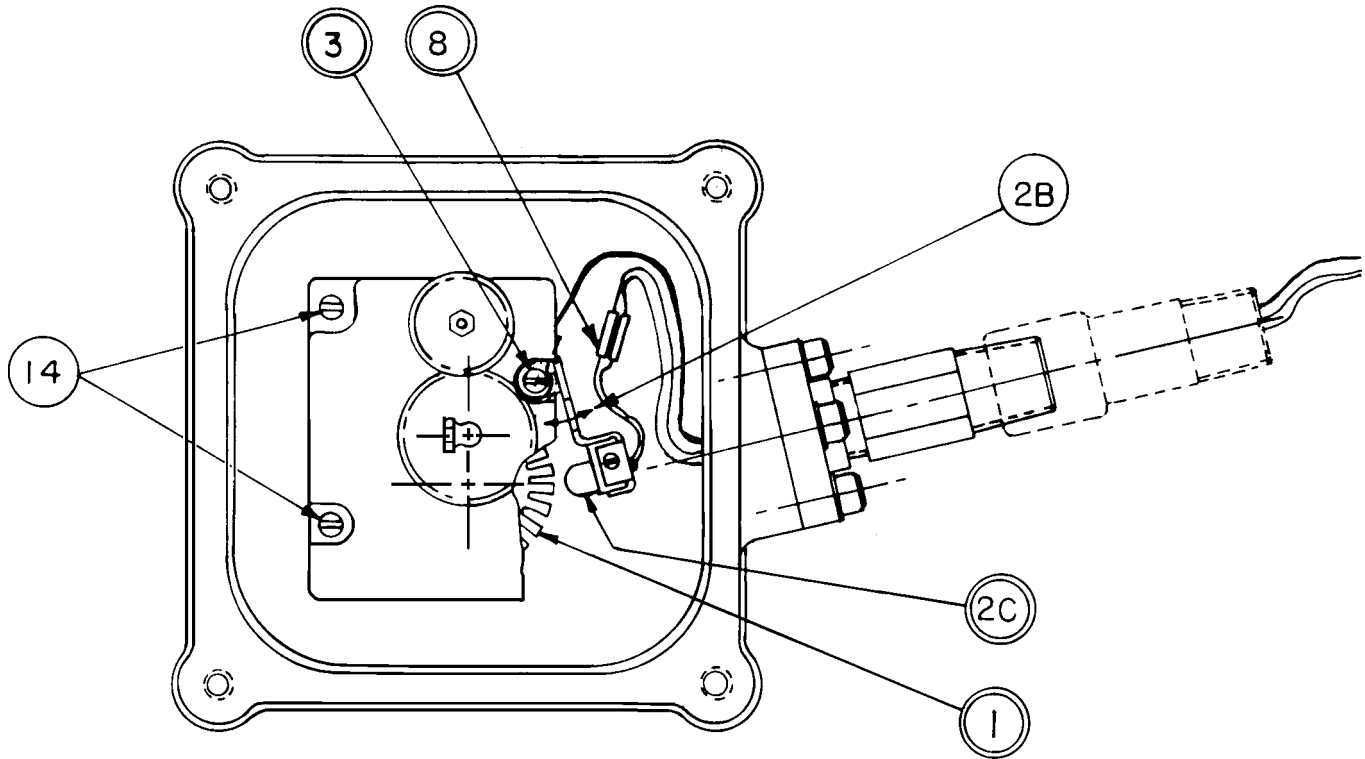
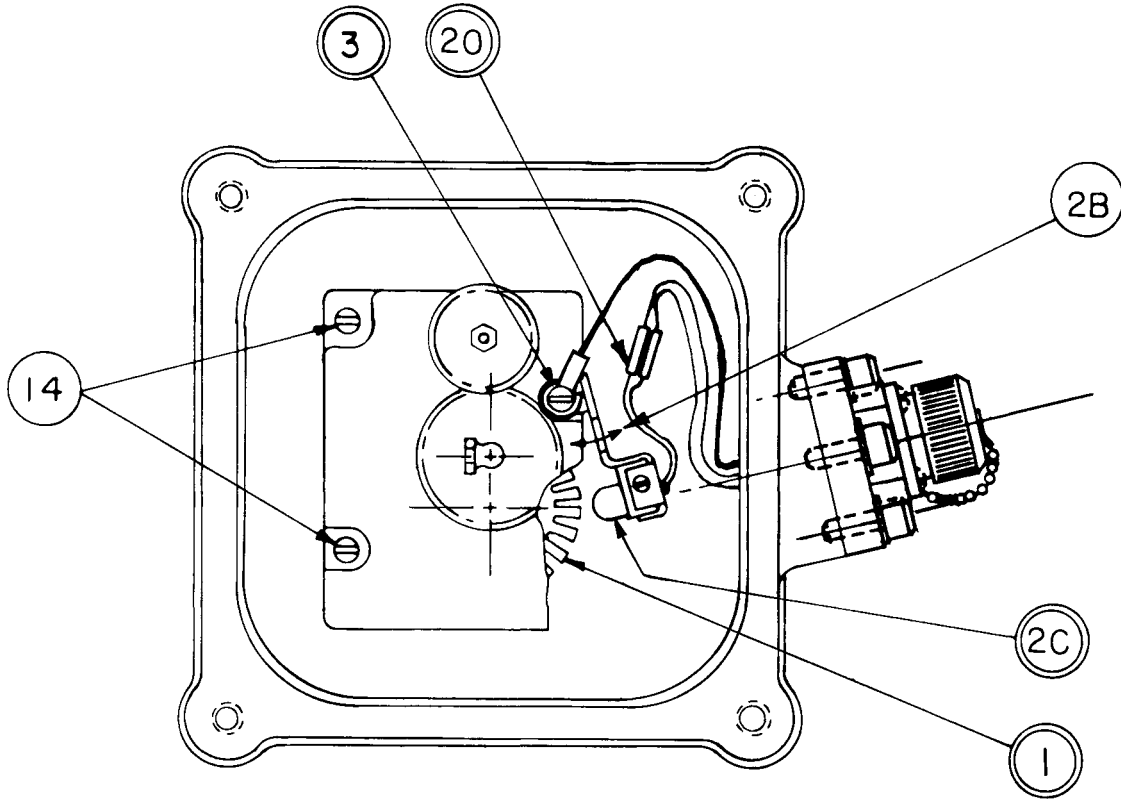

FIGURE 3
FIGURE 7
Refer to Figures 3 and 4 for conduit connector, Figures 7 and 8 for plug-in connector.
- 1 Loosen screw (3)—this will allow the sensor assembly to pivot (2B) (Figure 3).
This can be accomplished by pivoting the sensor assembly until the chopper disc contacts the back of the switch slot, then back off the sensor assembly to provide approximately  $\frac{1}{16}$ " clearance (Figures 3 and 4 or 7 and 8).